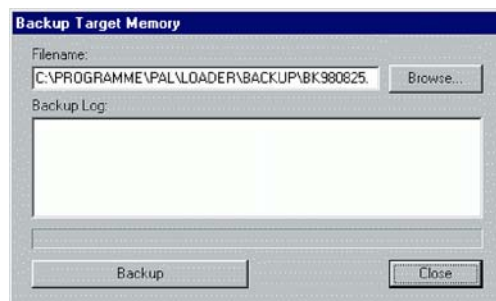

Fig. 29 PAL Loader Backup Target Memory
- 4 Click the **"Backup"** button. A dialog box entitled **"Backup Target Memory"** will be displayed. The path (storage location) and file name to be assigned to the new backup will be shown. A customized path and/or filename may be entered (see Figure 29).